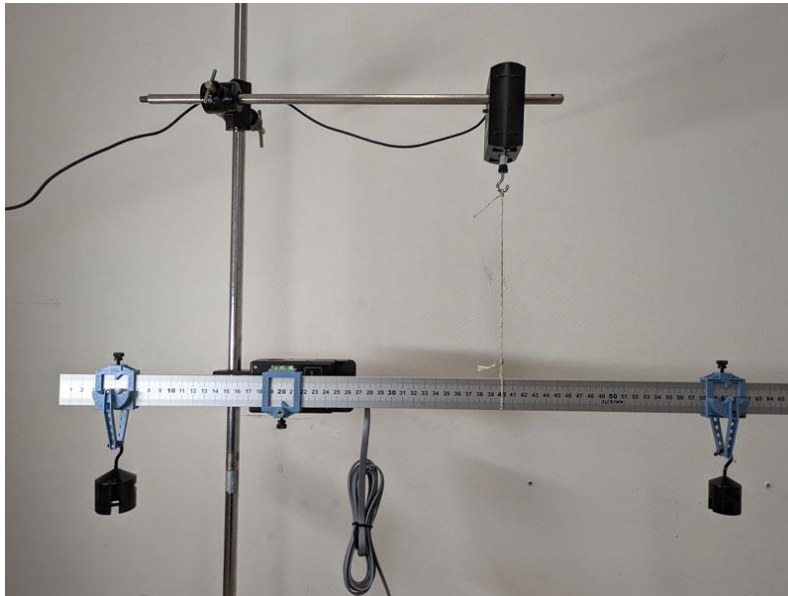

Figure 6 – Part 7 Setup
- C) On the table there is a piece of string with one end tied in a big loop and the other in a small loop. Slide the big loop around the ruler until it is at 40 cm. Have the small loop hang on the hook on the Force Sensor which is hanging from a stand. Adjust the Force Sensor until the meter stick is horizontal by changing its position on the bar and its height. See Figure 6.